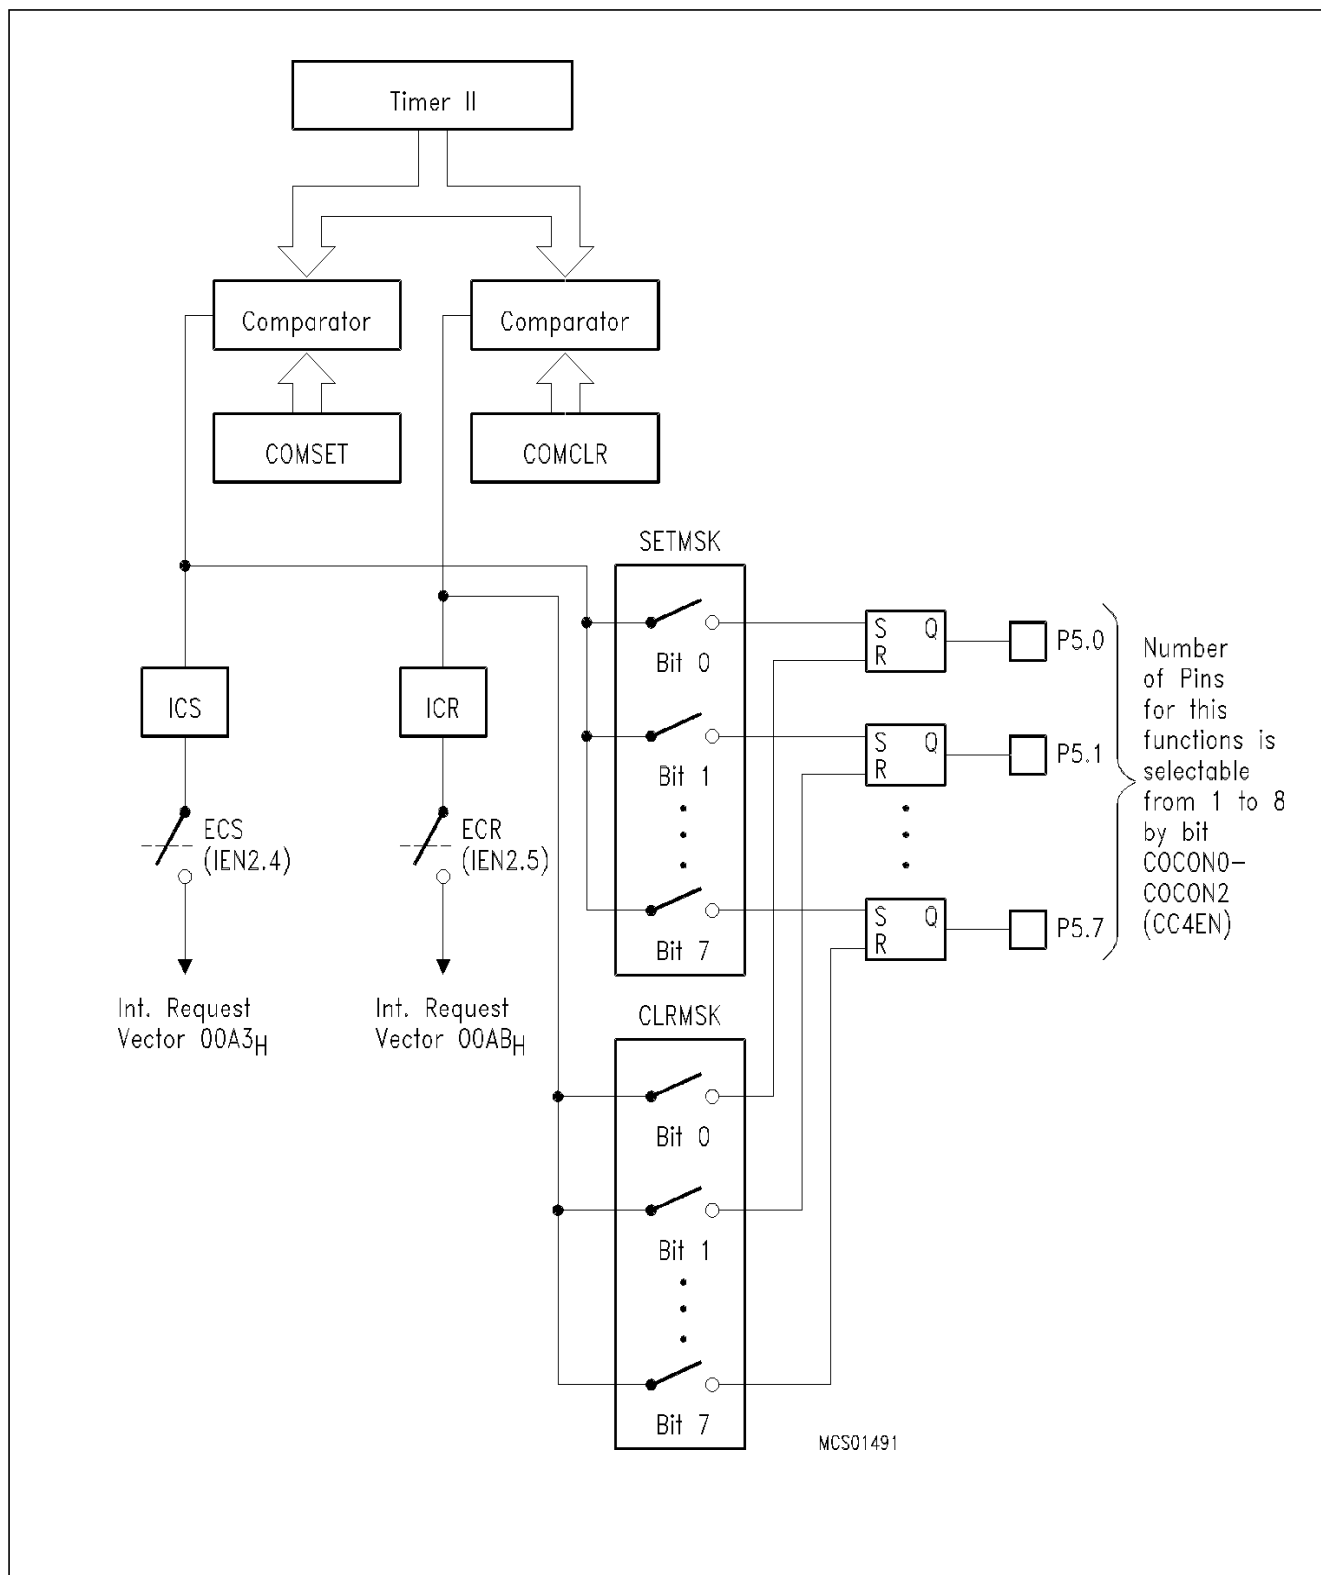

Figure 9
- Mode 2: In compare mode 2 the concurrent compare output pins on Port 5 are used as follows (see figure 9)
For programming of the priority levels the interrupt vectors are combined to pairs or triples. Each pair or triple can be programmed individually to one of four priority levels by setting or clearing one bit in special function register IP0 and one in IP1. Figure 9 shows the interrupt request sources, the enabling and the priority level structure.